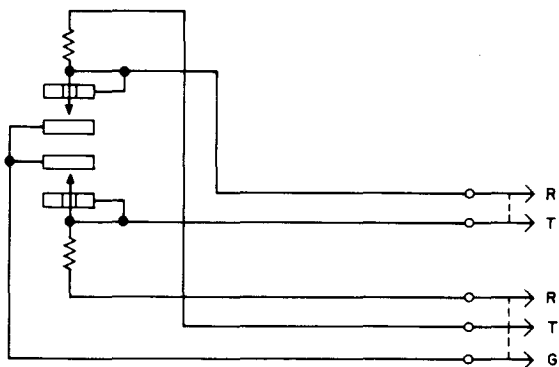

Fig. 12—418B Plug
**2.12 418B:** The 418B (Fig. 12) is a reversing plug consisting of two 1A1C protector units mounted in a metal housing and connected to a 412A and 412C plug. The 418B plug is designed to reverse the tip and ring of a cable pair with respect to central office circuits. This plug will not ground the line when the protector units are removed. The 418B plug replaces the 418A plug and is to be used on the 121-